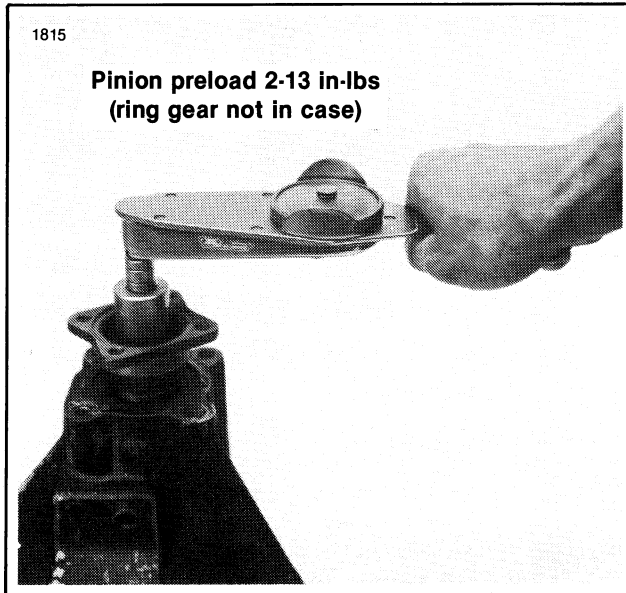

Figure 3-26. Checking Pinion Preload
12. Pinion preload is checked with in-lbs torque wrench. Turning torque of pinion shaft should be between 2-13 in-lbs. Pinion shaft must be vertical for this check. Torque reading to start shaft turning should be disregarded (Figure 3-26). If torque reading is high, add shims to increase shim pack (24) thickness. If torque reading is low, remove shims to decrease shim pack (24) thickness. Preload shims are available in the following thicknesses: .003 in. (.076 mm), .005 in. (.13 mm), .010 in. (.25 mm), and .030 in. (.76 mm). When turning torque is correct, install cotter pin (37).